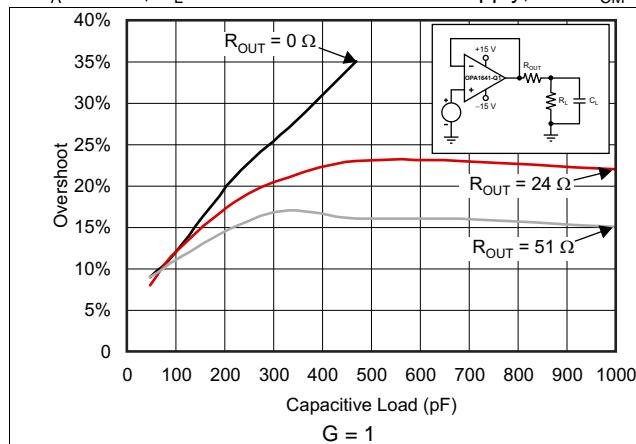
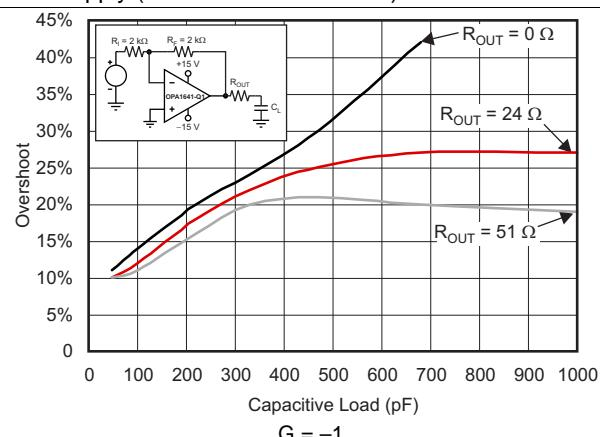

Figure 19. Small-Signal Overshoot vs Capacitive Load
Figure 20. Small-Signal Overshoot vs Capacitive Load
(1) Full power bandwidth = $SR / (2\pi \times V_P)$, where SR = slew rate.
(2) See Figure 19 and Figure 20.
Figure 19 and Figure 20 illustrate graphs of *Small-Signal Overshoot vs Capacitive Load* for several values of R_{OUT} . For details of analysis techniques and application circuits, see Feedback Plots Define Op Amp AC Performance available for download at www.ti.com